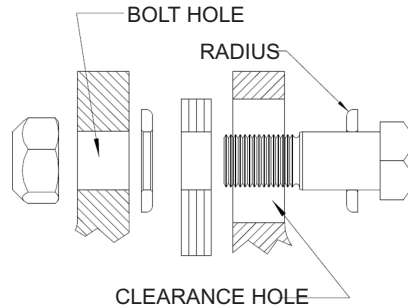

Figure 11 - Alignment confirmation values.
- 9.5. Place a loose washer on a bolt, with the flat side of the washer facing the bolt hex head. This will properly position the side of the washer with the radius facing the disc pack, as shown in Figure 11.
- 9.6. Hold the disc pack in one hand and slip it down between the two flanges so that the bushing heads in the disc pack line up with the bolt holes in the flanges as shown in Figure 1 and Figure 11.